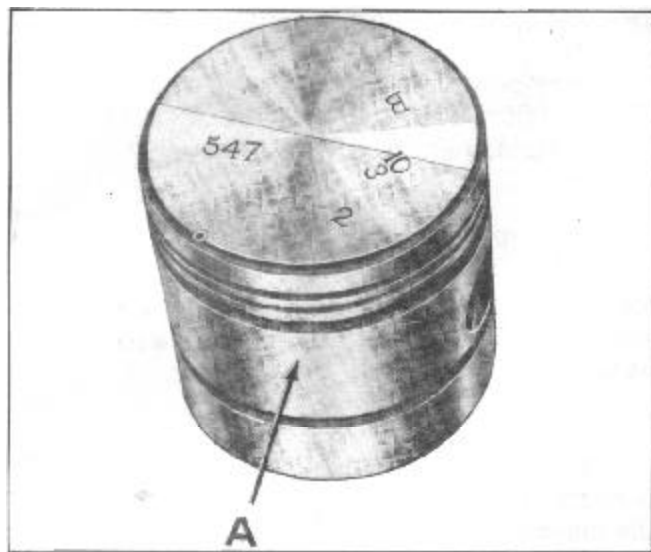

FIGURE 23
Example - The piston from No. 2 cylinder of a certain engine is marked as shown in Figure 23. The mark "547" is for identifying this piston which is one of a matched set so that it will be installed in the cylinder selected. The cylinder block is also stamped "547" on the front end face to the right of water pump. The mark "B" is the code letter stamped on both the piston and the lower face of the valve chamber and can be translated into a definite size by referring to the code tables shown on page 21. The mark $\frac{10}{3}$ indicates the weight and means 10-3/4
NOTE: Piston size shown above is the major diameter at top of skirt at (A), Figure 23, just below chamfer under No. 3 ring groove.
A code letter is stamped on the cylinder block along the lower face of the valve chamber, Figure 23, to show
The piston skirt is cam ground to an elliptical shape and tapered. Maximum skirt diameter is at "A", Figure 23 and 27, just below the third ring groove at right angles to the piston pin. The cam grinding makes it necessary that a .002" feeler blade 1/2" wide be used directly opposite the skirt slot when checking piston clearance, at the thrust side of the piston.